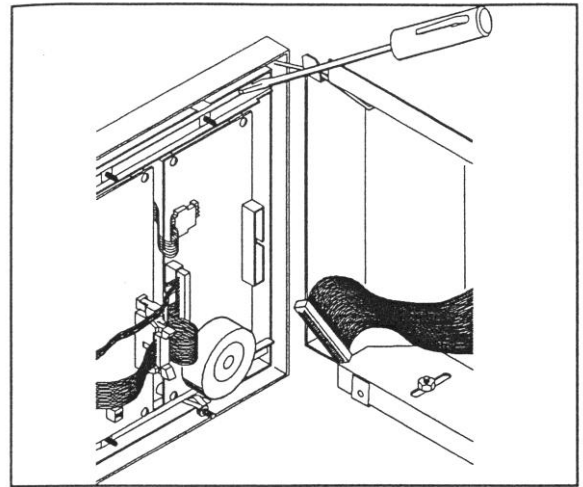

Figure 16 – Removing Module
- 4.2.11.1 Pop the modules and the retaining angle brackets out of the frame (see Figure 16).